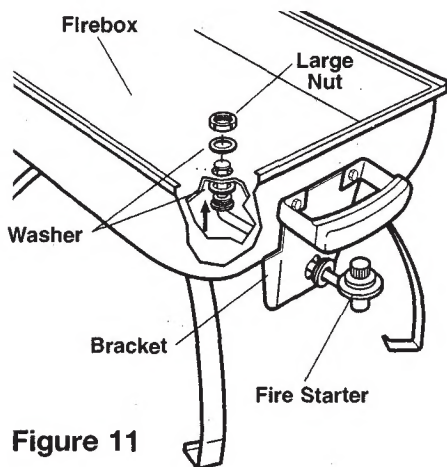

Figure 11
6. Slide fire starter through bracket and attach to bottom of fire box. Hand tighten large nut to secure unit. **Figure 11.**